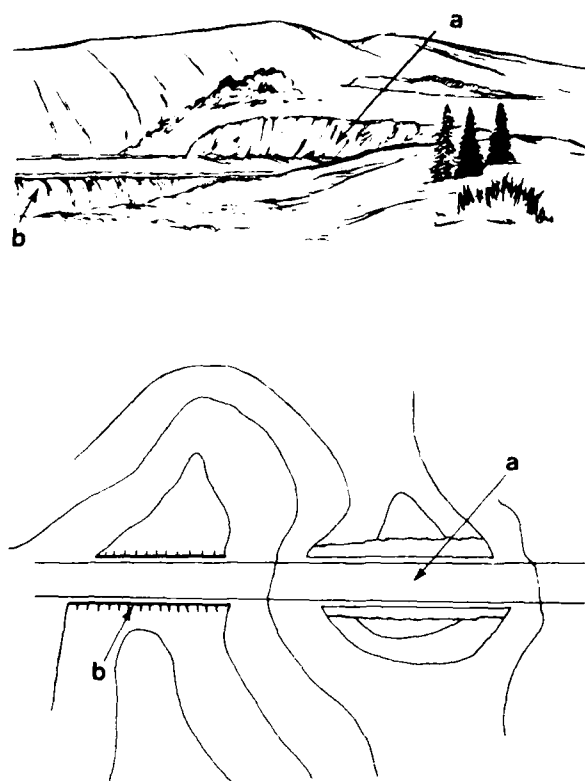

Figure 15-16.—(a) Cut; (b) Fill.
8. **CUTS and FILLS:** Cuts and fills are man-made features caused when the bed of a road or railroad is graded or leveled by cutting through high areas and filling in low areas along the right-of-way. (See fig. 15-16, views A and B, top and bottom.)